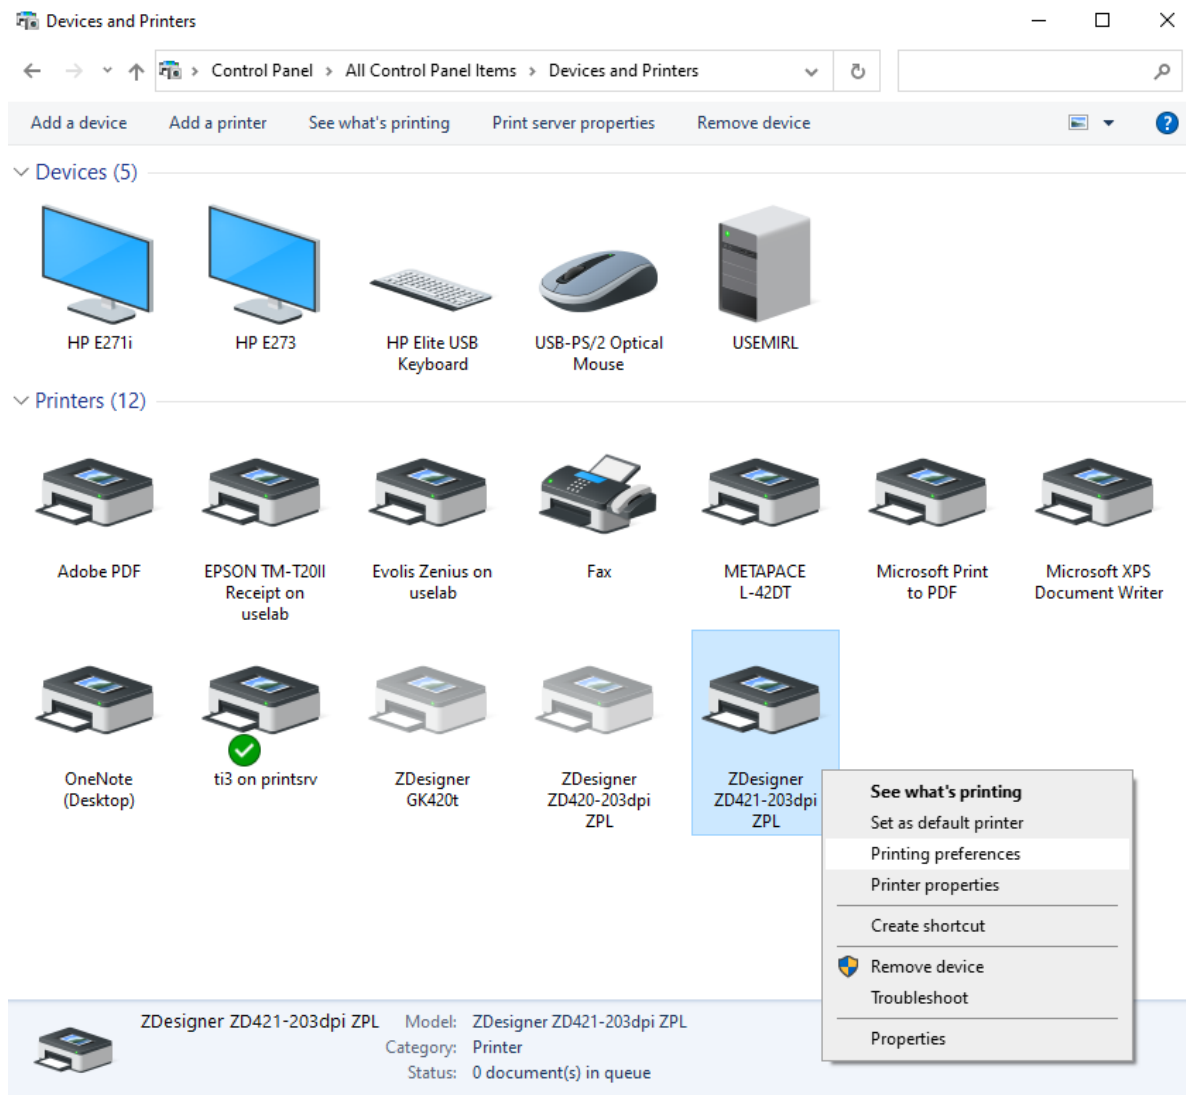

Figure 2: Control panel, devices and printers
- Figure 2: Control panel, devices and printers2
Once the driver is installed, the settings have to be adjusted before you start printing labels. This can be done in the **Control Panel**, where you select **Devices and Printers**. All the available printers will be shown on-screen. Select the *ZDesigner ZD421-203dpi ZPL* printer and right-click it. Select **Printing preferences** from the options (see Figure 2).